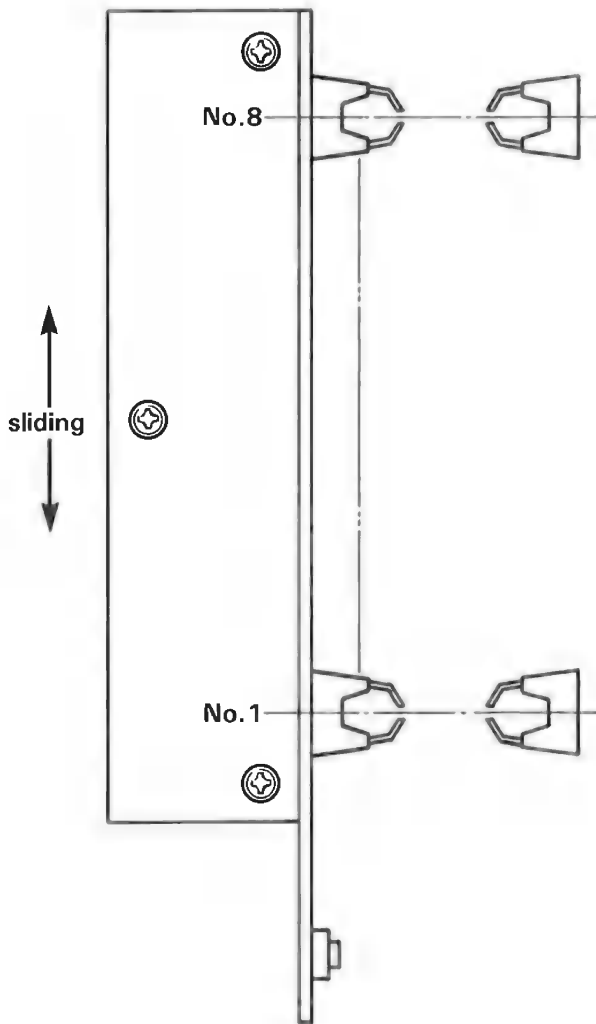

fig. 6-1
- 7). Loosen three screws. Adjust the position of pen stock by sliding parallel to Y-rail as shown in figure 6-1.